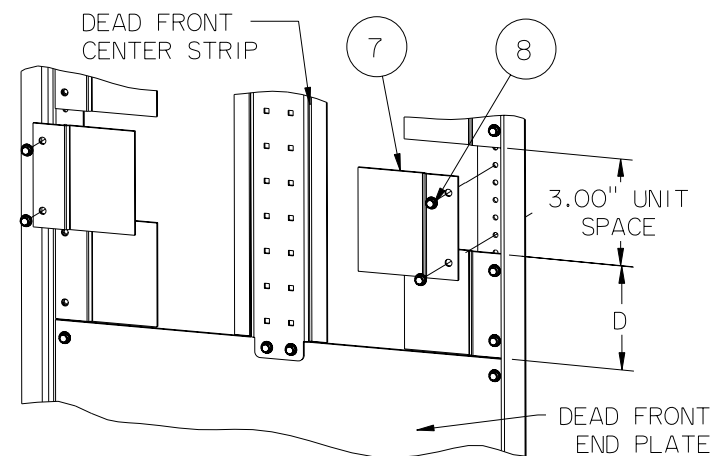

Figure 7
13. Refer to figure 7. - On P3 dead fronts only, install two dead front adaptor plates (item 7) on the outside edges of the kit dead front area, at the kit unit space locating dimension D, as shown. Fasten the plates to the dead front with four 8-32 screws (item 8).